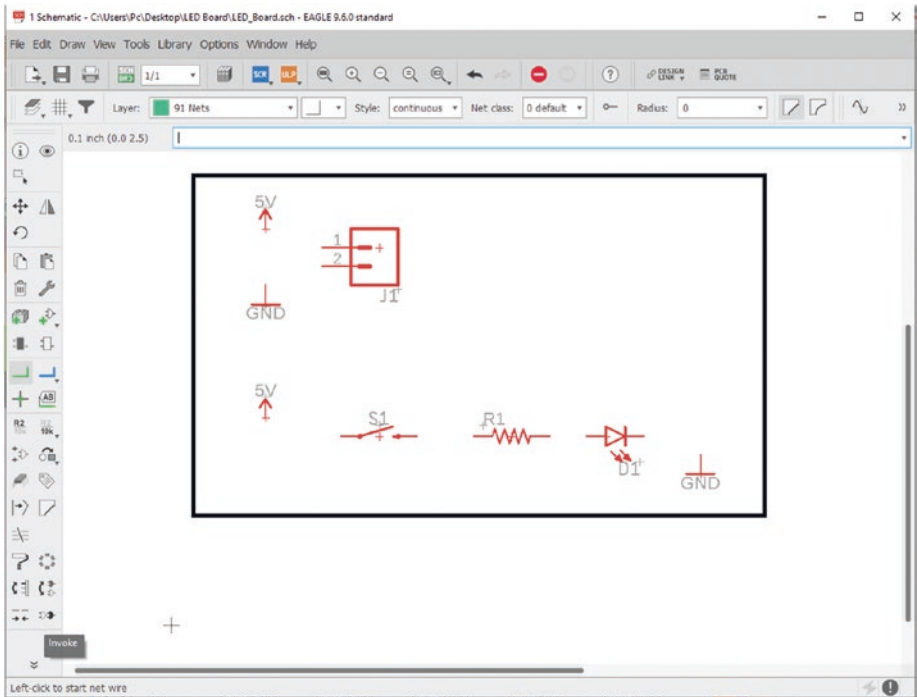

Figure 5-41. Configure the symbols in these orientations
28. Click the “Move” button and configure the symbols like Figure 5-41. Rotate any symbols as needed by selecting the symbol and using a right mouse click.